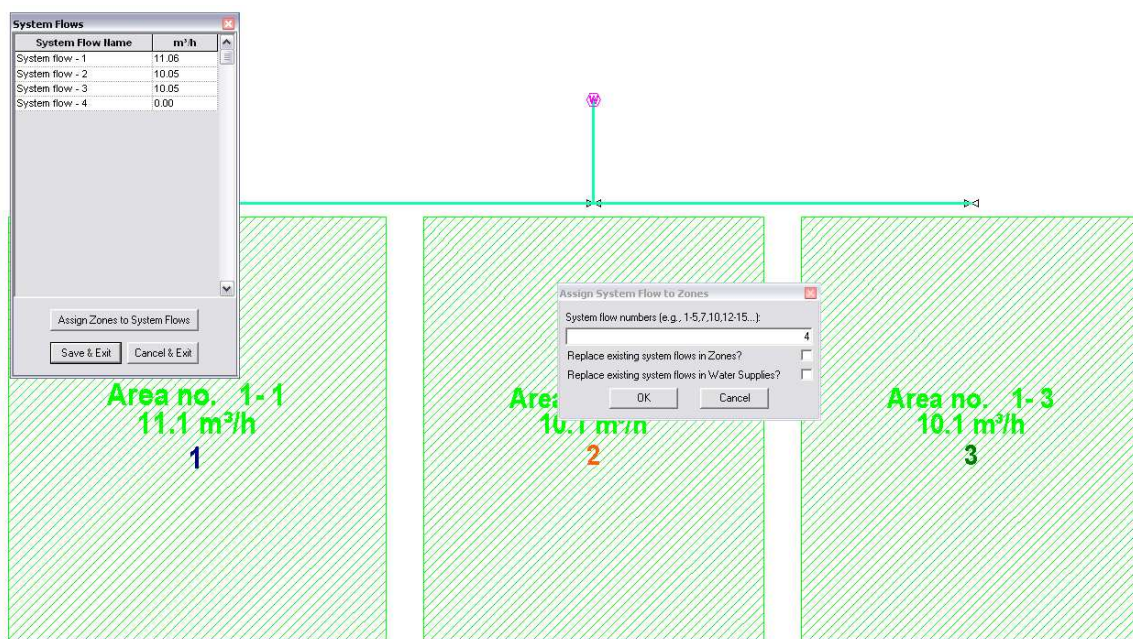

Figure SM 17
- Now select *Tools/Connect Valves* for IRRICAD to automatically connect mainline pipe to the new valves. See Figure SM 17.